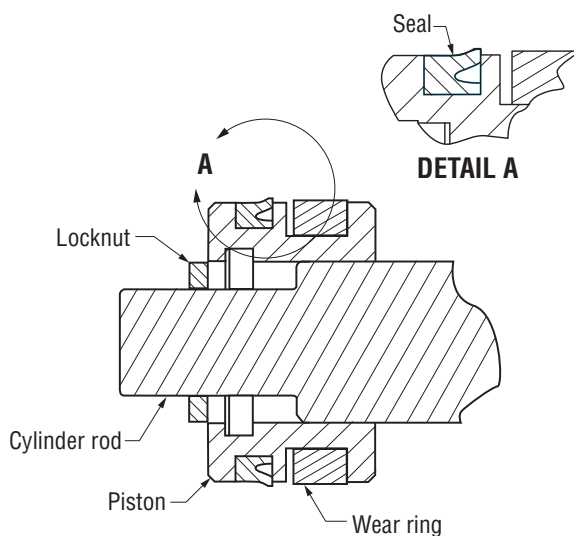

Figure 21, Piston seal
2. Note the direction of the seal on the piston. Improper installation will result in poor performance. The cupped side or O-ring side of the seal should be facing the gland cap. (Figure 21)